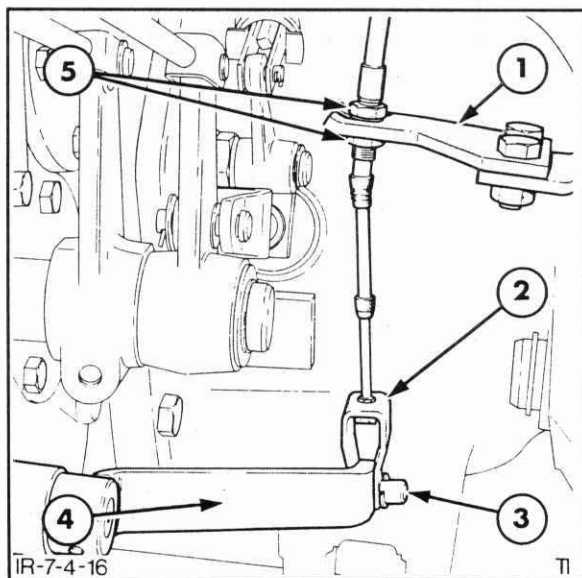

Figure 7-154
1. Disengage the front-wheel drive and disconnect the selector lever linkage from the actuating lever at the transfer case, Figure 7-154.
2. Loosen the cable adjusting nuts at the bracket attached to the loader sub-frame, Figure 7-154.
3. Attach the cable to the transfer case actuating lever and retain with the clevis pin, Figure 7-154.
4. Position the cable into the retaining bracket, Figure 7-154, and hand tighten the locking nuts.